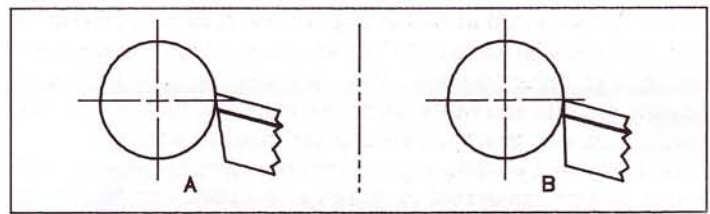

FIG. 3
2. Burning on front face of blade is caused by, (a) blade set above center, or "heeling", as shown by sketch "A", (Fig. 3); and (b) insufficient front clearance angle, sketch "B", (Fig. 3).